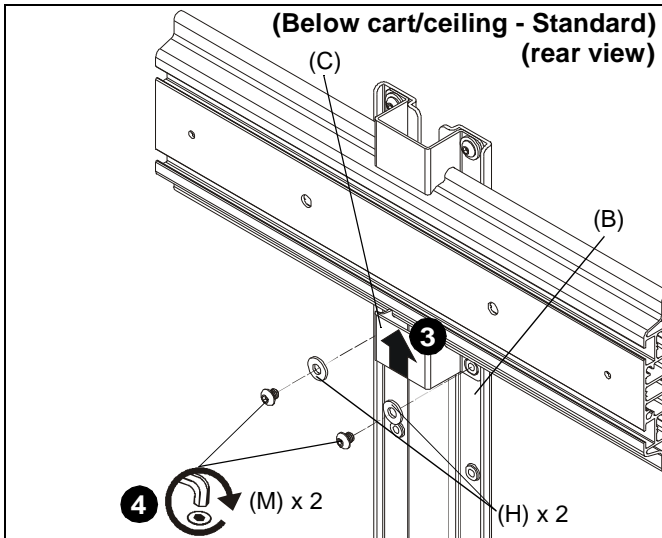

Figure 8
- Slide second shelf bracket (C) underneath head assembly, lining up holes on shelf bracket (C) to holes on main bracket (B). (See Figure 8)
- Use two 1/4-20 x 1/4" button head cap screws (M) and two large washers (H) to secure shelf bracket (C) to main bracket (B). (See Figure 8)